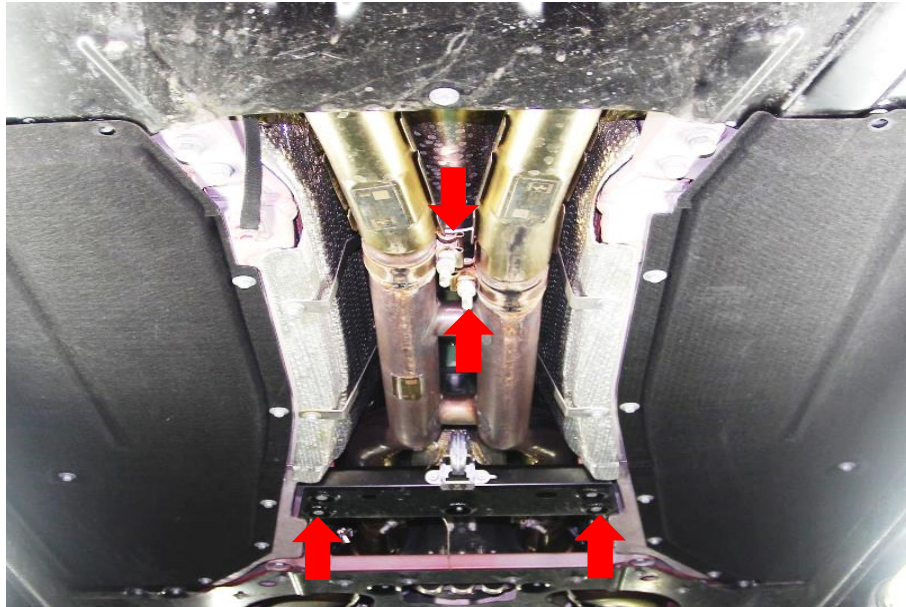

Fig. 8
7. Loosened the clamps of entryway and gateway in mid pipe. (Fig 8,9)
8. Take the muffler forward pipe and move it backwards, loosen the screw on the mid pipe, and then remove the mid pipe. (Fig 8)